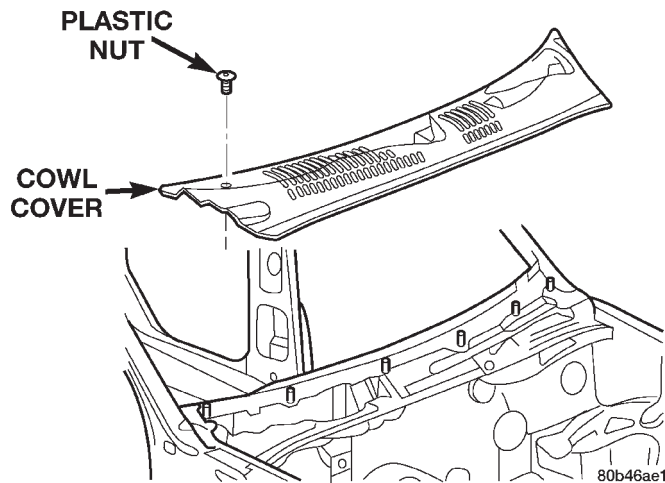

Fig. 9 Cowl Cover
- (1) Remove wiper arms.
- (2) Remove plenum seal.
- (3) Remove plastic push nuts attaching cowl cover to cowl (Fig. 9).
- (4) Remove windshield washer tubes at connector.
- (5) Remove cowl cover from cowl.